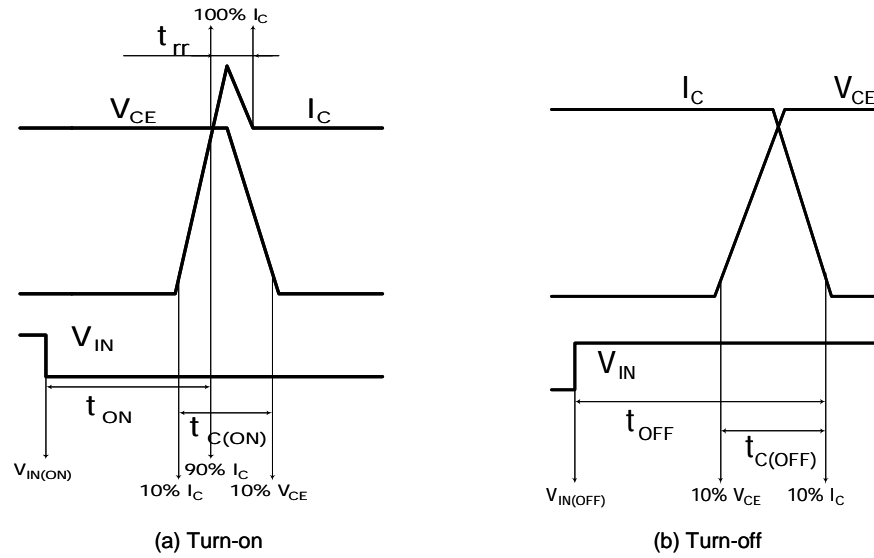

Fig 5. Switching Time Definition
3.  $t_{ON}$  and  $t_{OFF}$  include the propagation delay time of the internal drive IC.  $t_{C(ON)}$  and  $t_{C(OFF)}$  are the switching time of IGBT itself under the given gate driving condition internally. For the detailed information, please see Fig. 5.